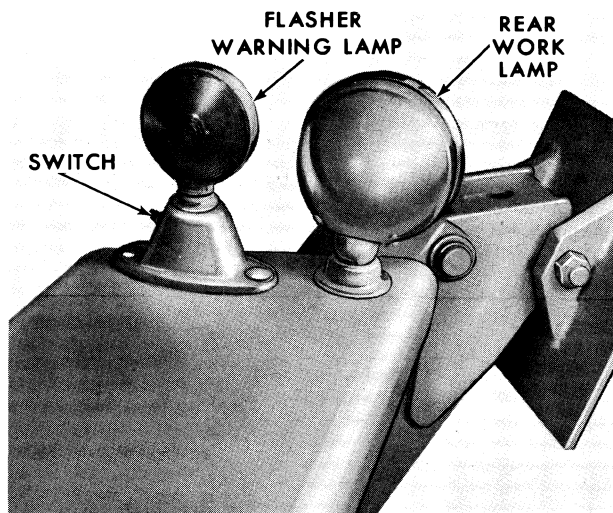
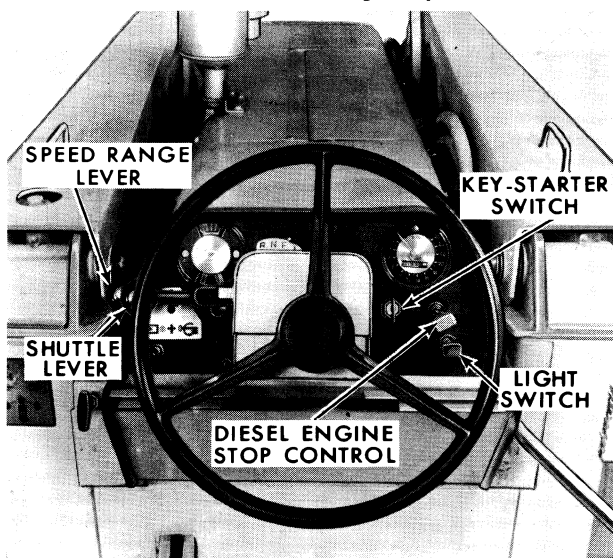

Figure 4
Figure 5
A flasher warning lamp, located on the rear of the left fender, or on the left rear corner of the cab, is provided as standard equipment. A push-type switch on the lamp housing, Figure 4, or on the inside left wall of the cab, is used to turn the flasher on or off. The light switch, Figure 5, must be turned on to make the flasher warning light operative.
The light switch is shown in Figure 5. The switch is a rotating type that turns to the right. Switch positions are:
The key-starter switch is shown in Figure 5. Turning the key to the right to its "ON" position will activate the instrument warning lights and instruments. Turning the key further right to its "START" position will start the engine. Upon release, the key will spring-return to the "ON" position.
The starting circuit can only be activated when the transmission shuttle lever, Figure 5, is in the neutral (N) position. Refer to page 16 for complete starting instructions.
The diesel engine stop control, shown in Figure 5, is used with the key-starter switch to stop and start the engine. The control must be pushed in before the engine can be started. Pulling the control out will stop the engine. Refer to "STOPPING THE ENGINE" on page 17 for additional information.